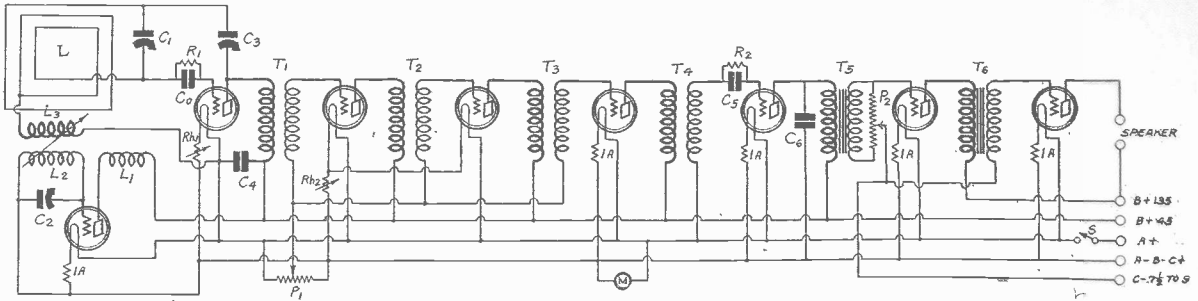

FIG. 615
(1)—See Fig. 615 for this circuit.